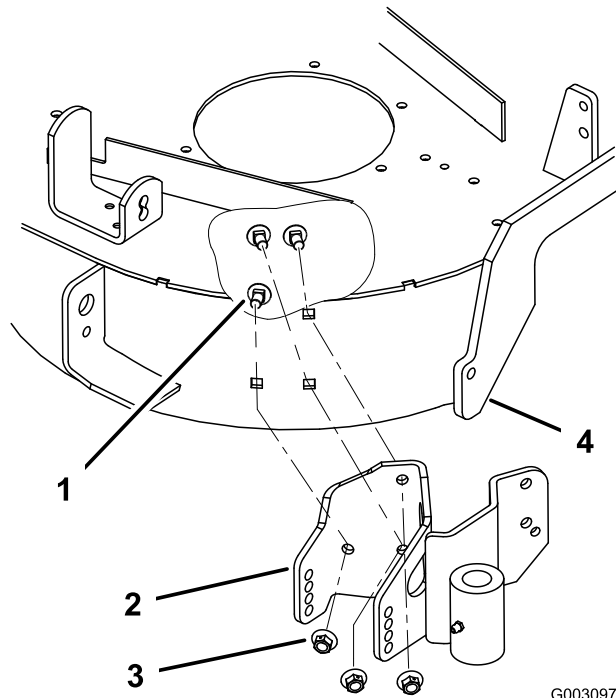

Figure 2
1. Install the new bracket to the outside of the mower deck with the 3 existing bolts and nuts previously removed (Figure 2).
4. Tighten the 3 bolts holding the new mounting plate to the mower deck (Figure 2).